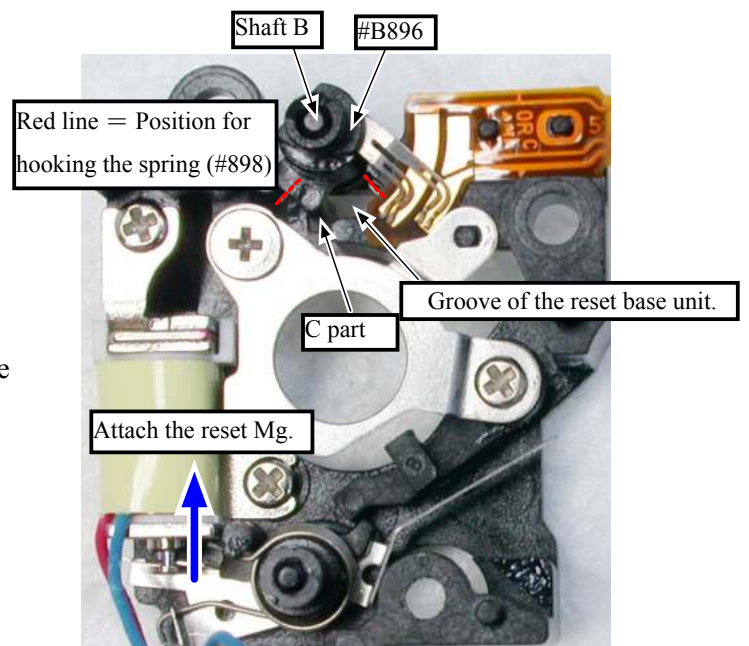

Fig.1
- ① Put the spring (#898) on the shaft B. (Fig.1)
- Assemble the DX contact unit with 2 screws (#1514), and make soldering bridges. (Fig.1)